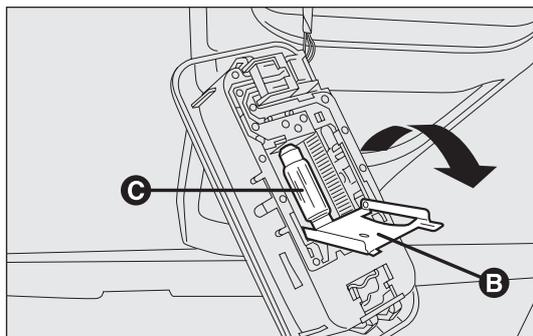

fig. 176
- open the protective flap B-fig. 176;